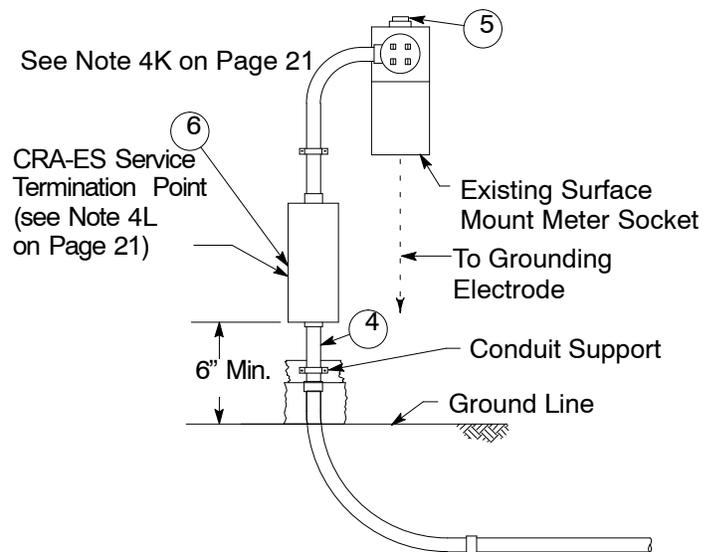

**Figure 1
1. A typical overhead service conversion is illustrated in Figure 1. CRA-ES will install cable in a conduit system provided by the applicant. Various surface mount and semi-flush meter socket installations (illustrated in Figure 2 on Page 3 through Figure 7 on Page 4) are used with services converted to underground. The conversion option selected by the customer shall comply with all local building codes and ordinances. The customer shall furnish, install, own, and maintain termination facilities on or within the building to be served.
- C. Service conductors will be installed in conduit as shown in Figure 1 on Page 23. For conduit size, refer to CRA-ES 501.1-2.